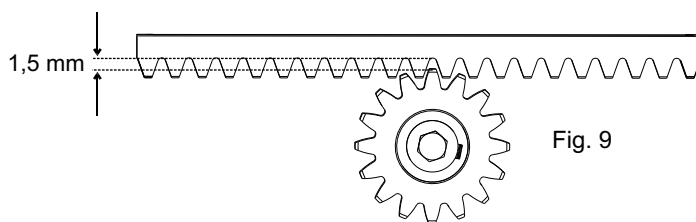

Fig. 9
5.6. To avoid that the door weights down on the pinion (Fig. 9) lift up the whole rack about 1,5 mm.